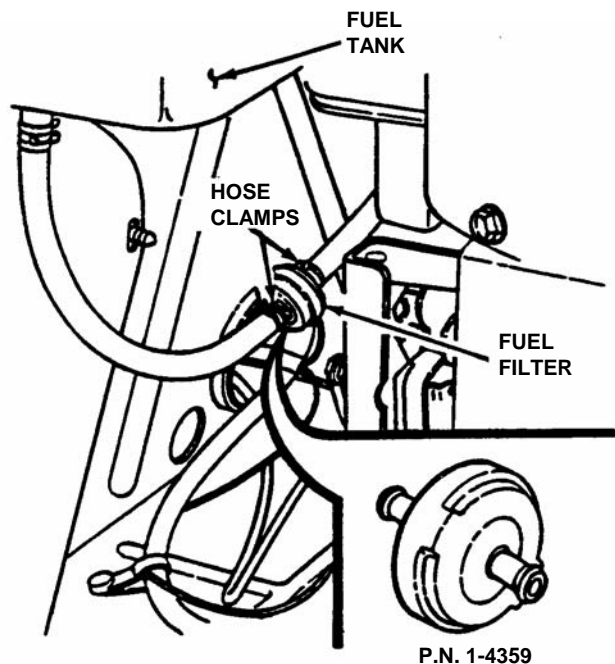

FIGURE 3.10
3. Install new fuel filter. See Figure 3.10.